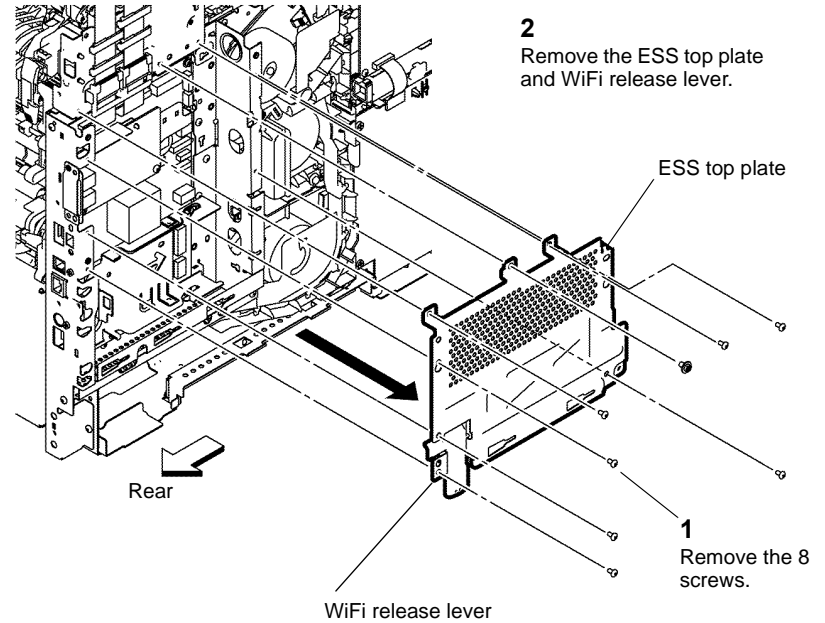

Figure 1 Remove the ESS top plate
- Prepare to remove the Fax PWBA, Figure 1.